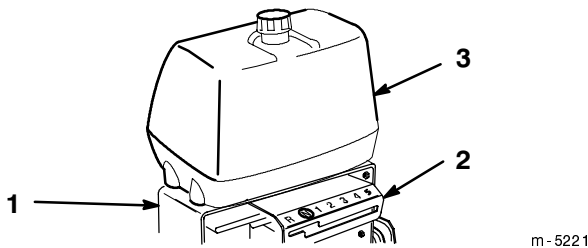

Figure 3
- Slide the control panel over the shift lever and under the bottom of the rear frame (Fig. 3).
- Align fuel tank with the top of the rear frame (Fig. 3).